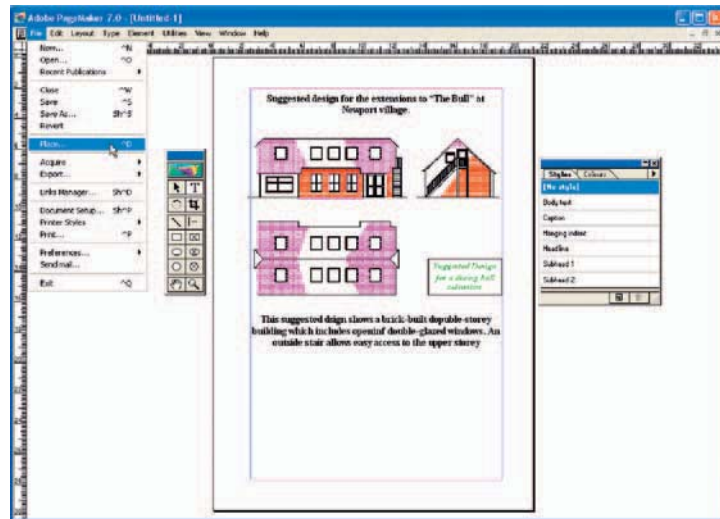

Fig. 10.4 An *.eps file placed in position in a PageMaker document
2. Open a desktop publishing application. That shown in Fig. 10.4 is PageMaker.
3. From the **File** drop-down menu of **PageMaker** click **Place...** A dialog appears listing files which can be placed in a PageMaker document. Among the files named will be **building.eps**. *Double-click* that file name and an icon appears, the placing of which determines the position of the *.eps file drawing in the PageMaker document (Fig. 10.4).